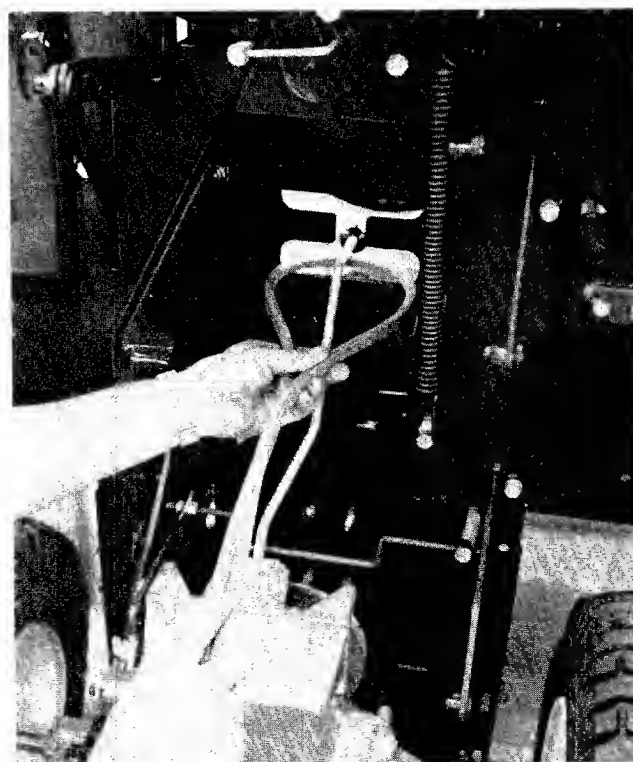

FIGURE 31.
13. Slip the belt over the gear shift lever, and remove from transaxle. See figure 31.